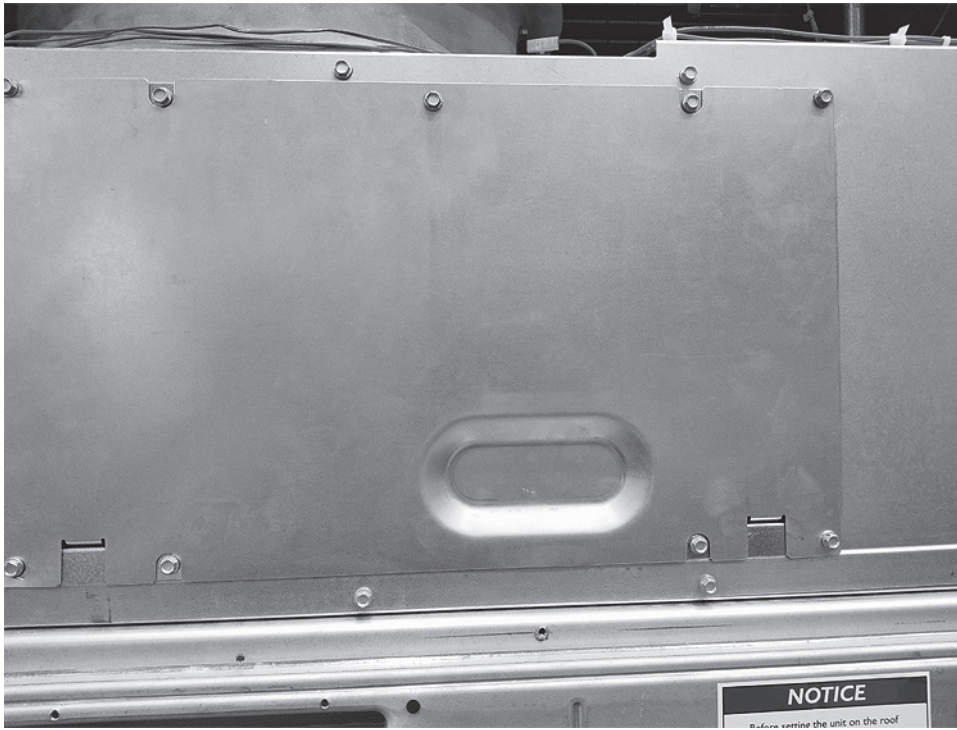

Fig. 16 — Heater Cover
4. Fasten heater cover to heater module with 2 screws provided with heater. Flanges of cover must face out. (See Fig. 16.)